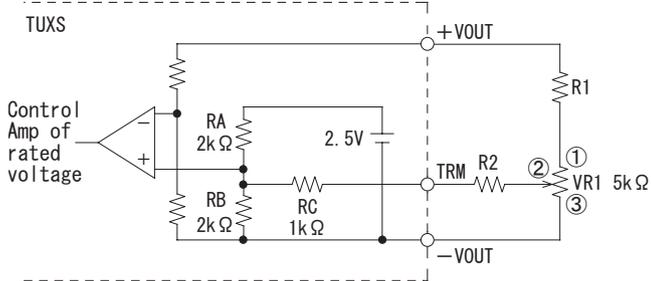

Fig. 3.1 Output voltage control circuit
(1) Output voltage adjusting
- By connecting the external potentiometer (VR1) and resistors (R1,R2), output voltage becomes adjustable, as shown in Fig.3.1, recommended external parts are shown in Table 3.1.